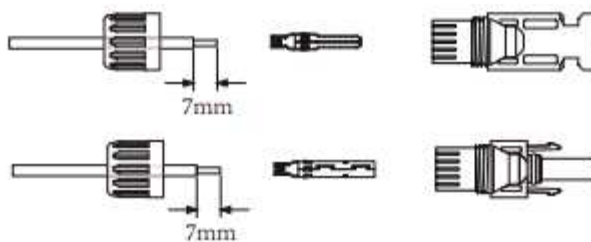

Figure 2.8 Connector cover nut
1. Peel off the DC line about 7mm and remove the connector cover nut see figure 2.8 .